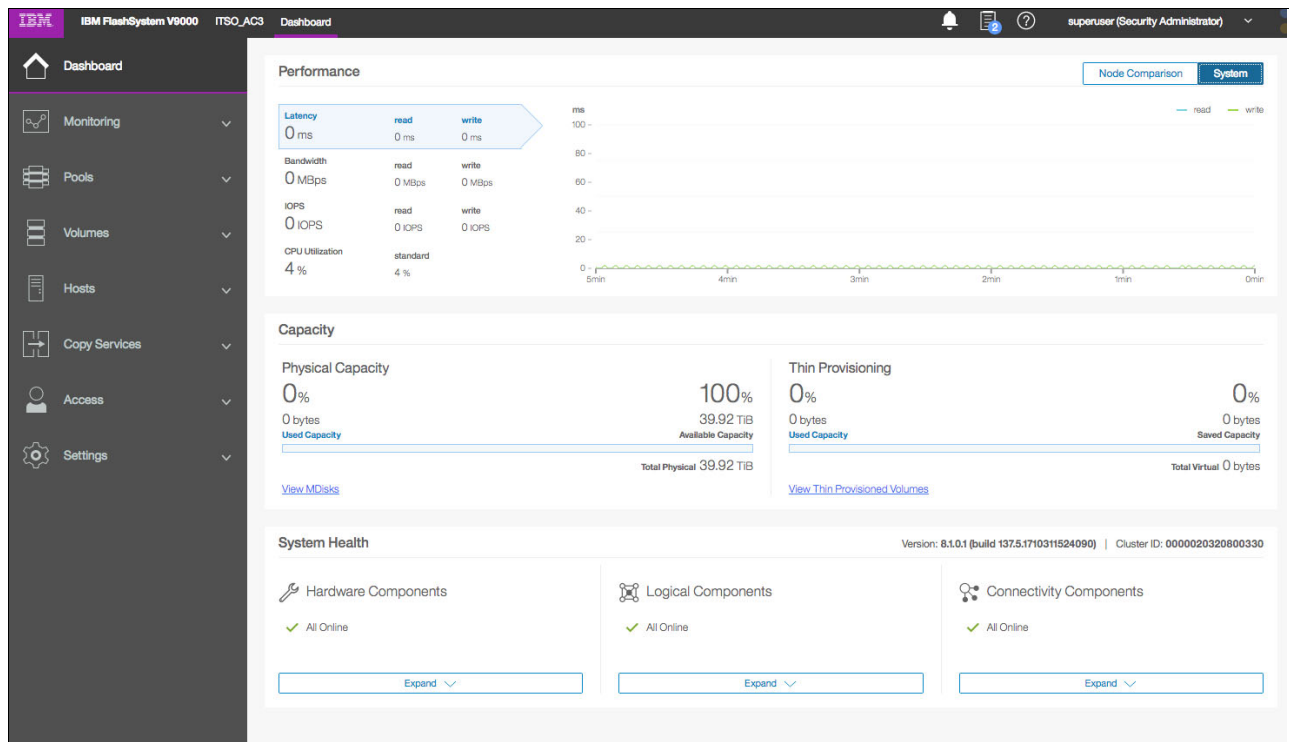
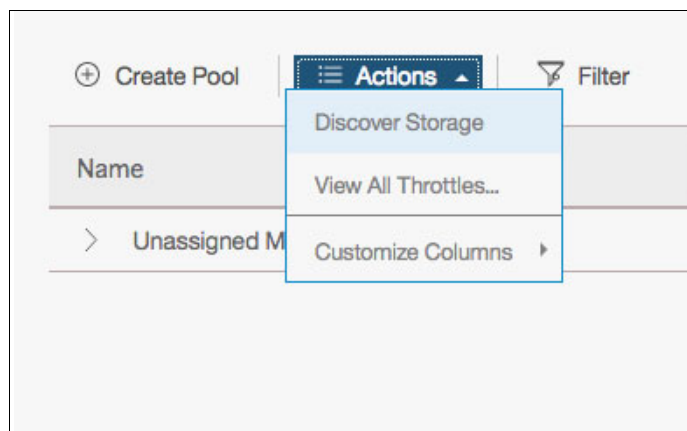

Figure 3-7 Dashboard page of the V9000 AC3 GUI
Figure 3-8 Discover Storage menu item
Figure 3-7 shows the main dashboard GUI Page for the V9000 AC3.
1. From this screen shown in Figure 3-7, select the **Volumes** → **Volumes by Pool** option from the left hand menu. The new screen shown in Figure 3-8 displays, and the AE3 should show in the available storage list. If it does not, then select the “Discover Storage” drop down to start this process.